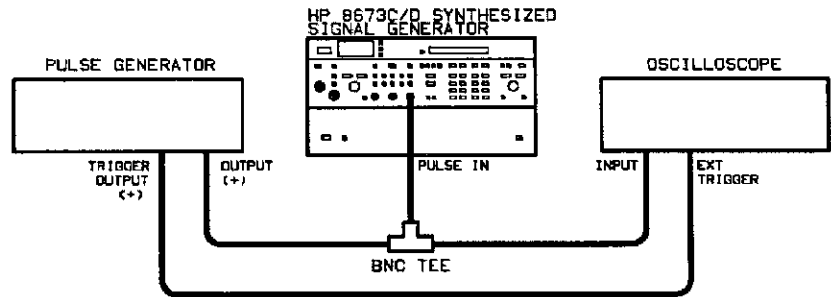

Figure 8-53. Pulse Modulation Check Setup
14. Connect test equipment as shown in figure 8-53.